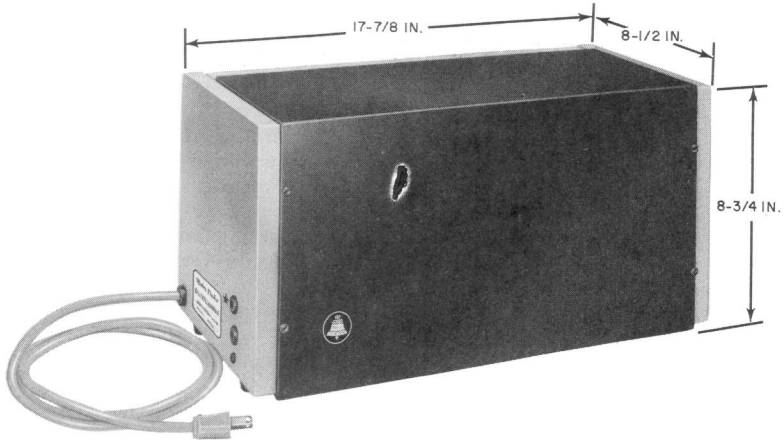
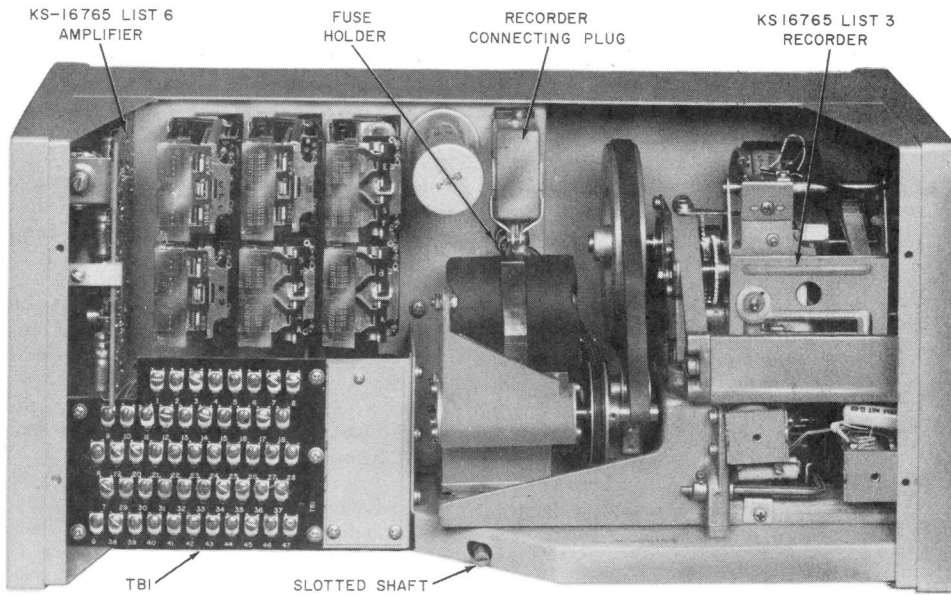

Fig. 1—KS-16765, Lists 1 and 2 Announcement Set Dimensions
Fig. 2—KS-16765, List 1 Announcement Set, Front Cover Removed
**2.01** The KS-16765, Lists 1 and 2 announcement sets (Fig. 1) feature:
**2.05** Each set weighs approximately 40 pounds and is housed in a metal cabinet that has a removable front and back (Fig. 2, 3, 4, and 5). The cover has a blue gray enamel finish and the chassis has a light olive gray finish. Dimensions are shown in Fig. 1.
**2.07** A 1/2-amp fuse is provided in these sets for electrical protection (Fig. 2 and 4).
**2.08** The KS-16765, Lists 1 and 2 announcement sets (Fig. 2, 3, 4, and 5) incorporate the following:
- (1) Remove announcement set front cover.
- Loosen four captive screws on front cover (Fig. 1).
- (2) Remove recorder connecting plug from plug-in receptacle.
- (3) Remove List 3 recorder.
- (4) Insert new recorder into cabinet.
- (5) Release bail shipping lock.
**3.06 KS-16765, List 6 amplifier (Fig. 2, 4, and 9):**